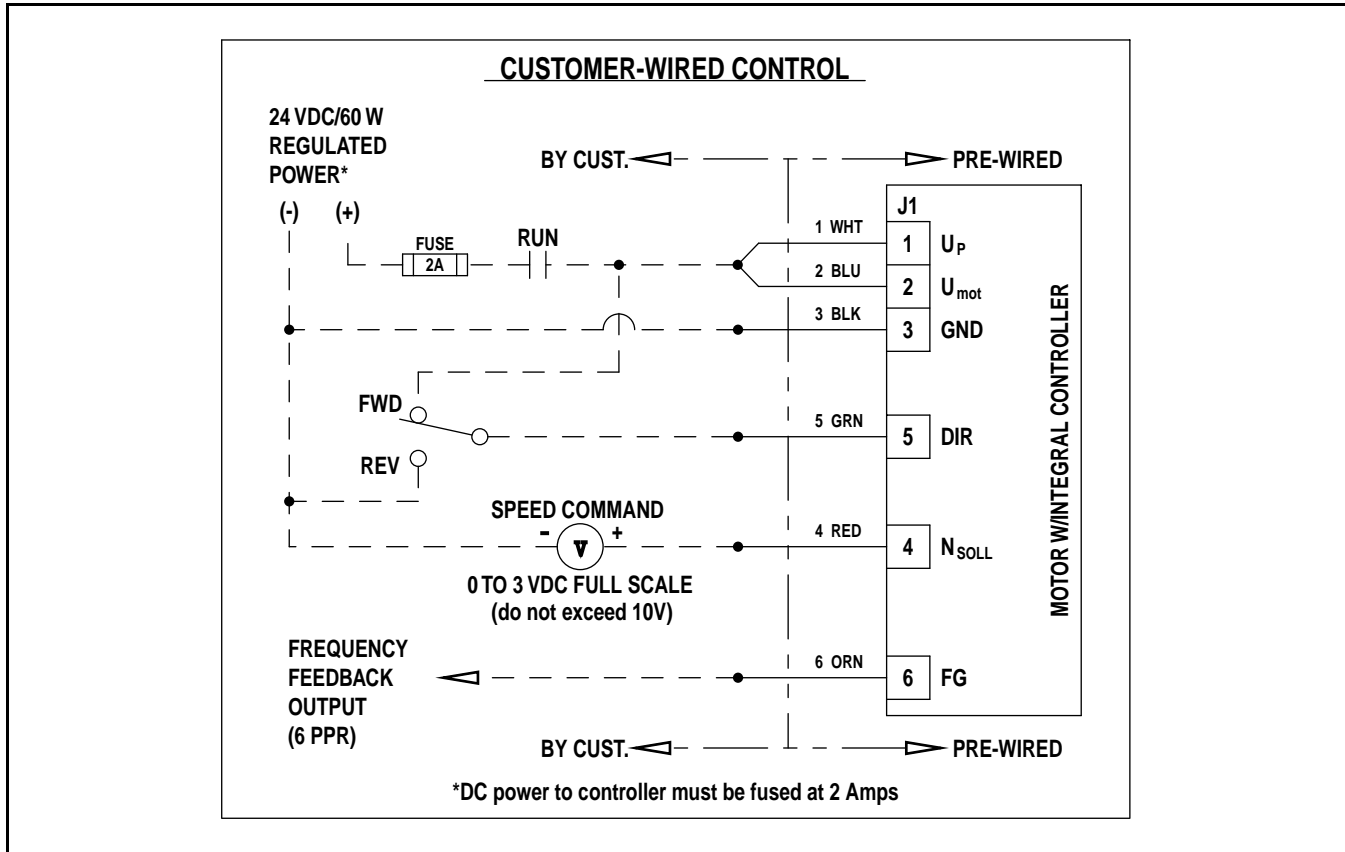
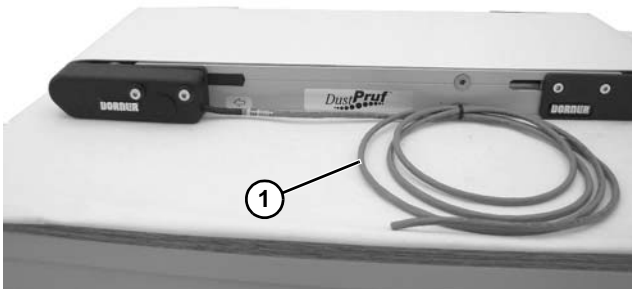

Figure 31
Figure 32
1. Locate lead wires (Figure 32, item 1) extending from iDrive cover. Determine wiring diagrams based on diagrams above (Figure 31).